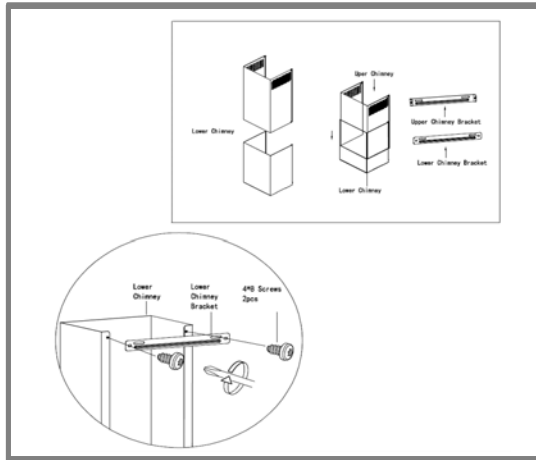

Fig.8
- Secure the mounting bracket onto the screws firmly 1 & 2 and place the outer flue duct onto the appliances. (Fig. 8).